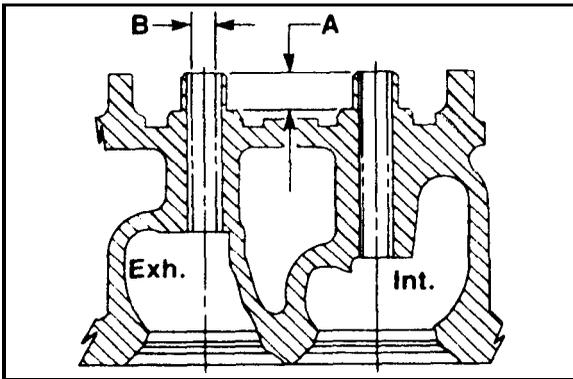

Figure 6-11
12. Install valve guides. Lubricate with oil and press guides to dimension A protrusion above cylinder head. Finish ream bores to dimension B (Figure 6-11).